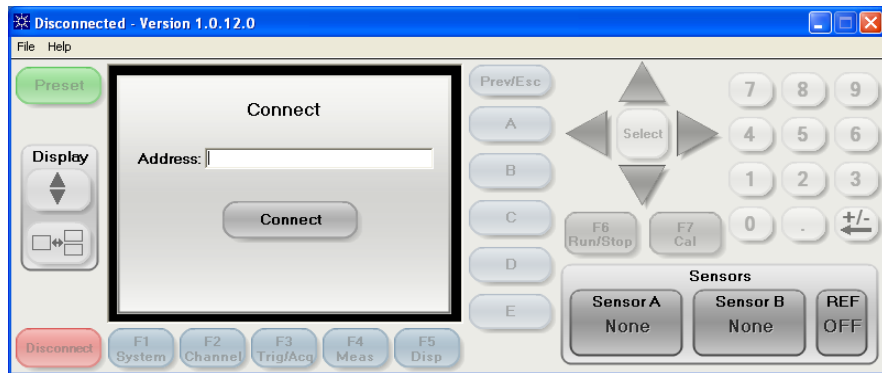

Figure 1-29 P-Series soft front panel
- 8 The P-Series soft front panel appears (See **Figure 1-29**)